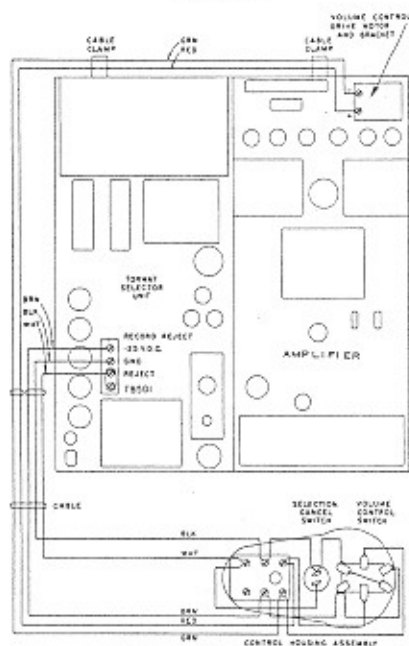
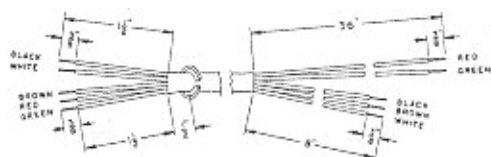

Figure 3. Wiring Diagram.
Figure 4. Cable Preparation.
6. Strip and trim the phonograph end of the 5-wire cable as shown in Figure 4. Connect cable to drive motor and terminal strip on the Tormat Selector Unit as shown in Figure 3.
10. Lift out the Terminal Panel and connect the 5-wire cable to the screw terminals, Figure 3 and 7. Exercise caution so as not to crack panel.